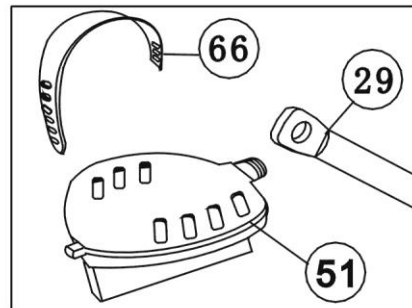

Figure 9
attach the Left & Right pedals (51) to the Crank axis (29). The Left Pedal (51L) should be threaded on counter-clockwise. The Right Pedal (51R) should be threaded on clockwise. (See figure 9)